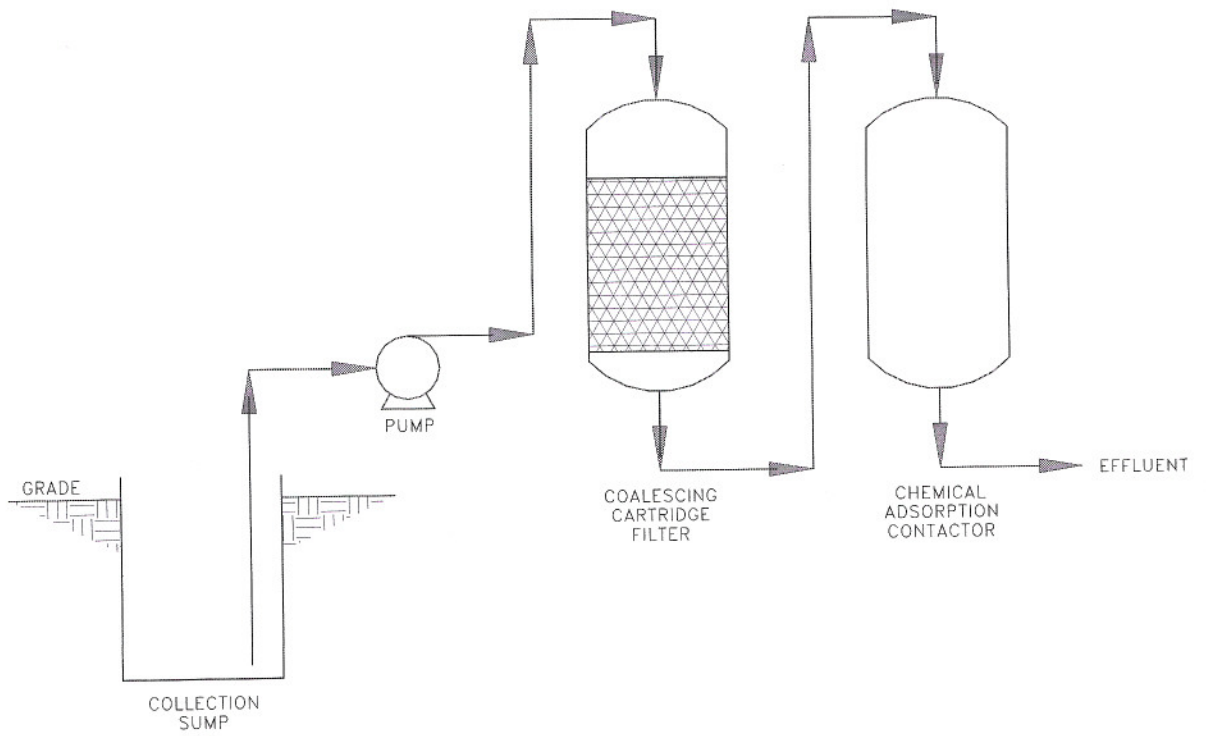

Figure 6
4. Dissolved organics consist of windshield solvent, radiator coolants, engine degreasing washwater, and chemically emulsified oils. If any of the above contaminants are present, their removal may be effectively accomplished in a chemical adsorption contactor. In order to maximize the capacity of the contactor, the use of an upstream coalescing cartridge filter is necessary. See Figure 6.